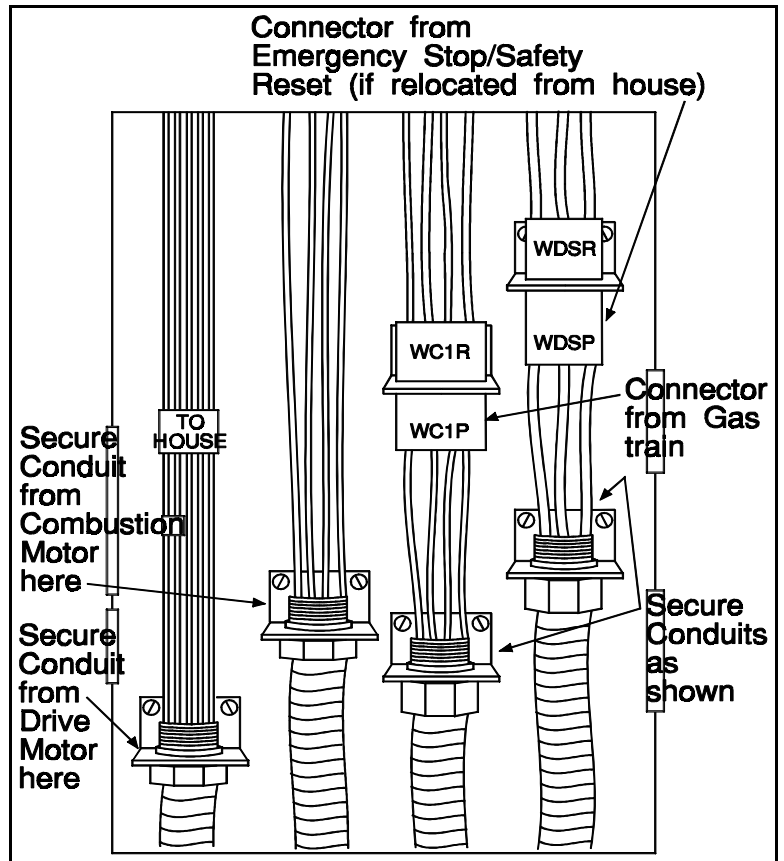

FIGURE 6 (MSIN0108AE)
1. Secure the conduits and connectors (located in the Electrical Access Compartment) as shown in FIGURE 6.